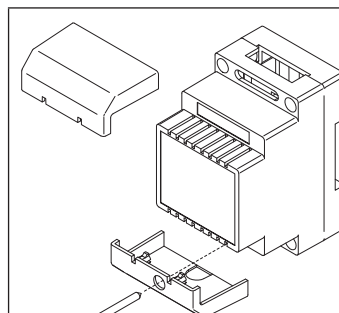
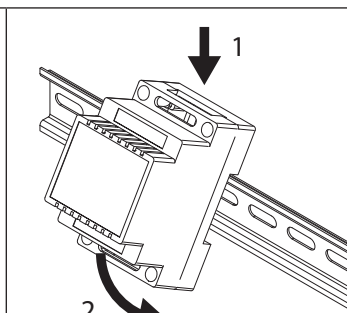
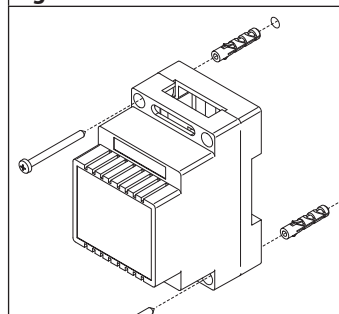

Fig. 3
Fig. 4
Fig. 5
3. Put the base of the unit on the wall at approx 135cm from the finished floor (Fig. 3) to mark the points for the fixing holes (B) (Fig. 4) remembering that the wires (E) (Fig. 4) must be fed through the hole (F) (Fig. 4). If you use the flush mounting box 503, embed it into the wall vertically at approx. 140cm from the finished floor and the base.
4. Following Fig. 4, make the holes (B), insert the wall plugs (C) and fix the base with the screws (D) feeding the wires (E) into the hole (F). If you have used the box 503, fix the base to the wall through the holes (G) using the screws (D).
1. Remove the terminal side covers by unscrewing the retaining screws (**Fig. 3**);
2. Fix the power supply to a DIN rail (**Fig. 4**) or directly to the wall using two expansion type screws (**Fig. 5**);
To give power supply to the module connect one of the inbuilt IDC male connector ① to the IDC male connector of the camera unit module through the flat cable provided. A further buttons expansion module can be connected to the free IDC male connector of the previous expansion module (**Fig. 3**).